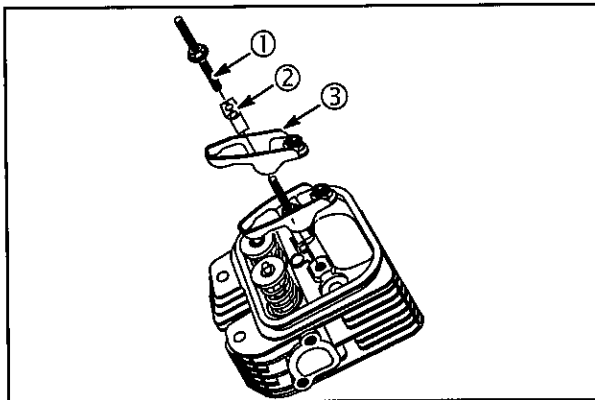
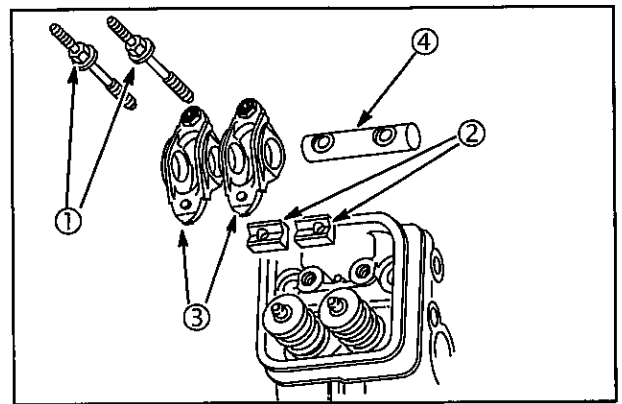

Fig. 21
Fig. 22
1. Remove two rocker studs (1) supports (2) and rocker arm assemblies (3), **Fig. 21** (current) or **Fig. 22** (early). Remove rocker arm shaft (4, early versions).